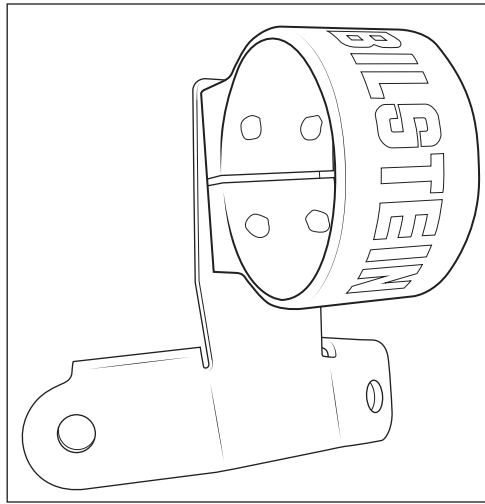

Figure 9
5. Bolt the reservoir clamp to the AEV mounting bracket with clamp bolt head pointed downward. Bolt in place using top set of holes in clamp and tighten bolts to 30 ft-lb. (fig. 9)